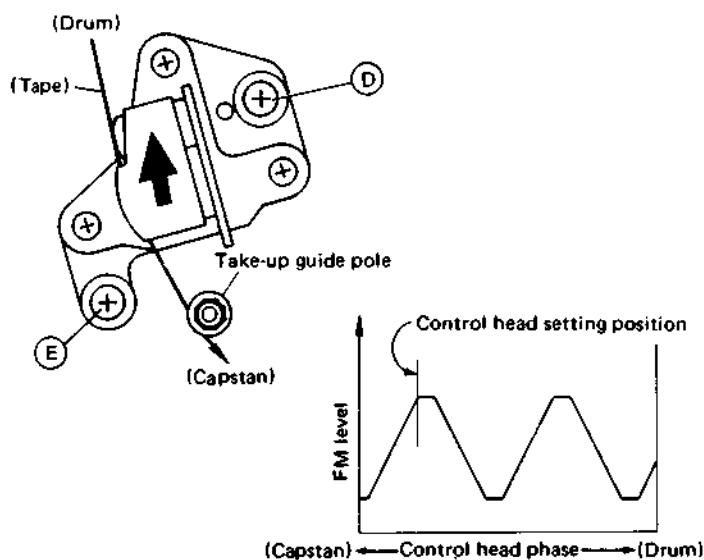

Fig. 4-44 Control head phase adjustment
9. Set the audio/control head position tool (PUJ47351-2) over the screw (D) and insert the pin of the tool into the hole at the side of the screw.
10. Slowly turn the tool and slide the A/C head assembly in the direction of the arrow as shown in Fig. 4-44.
11. Set the A/C head assembly to the position where first maximum FM level is obtained. Tighten two screws (D) and (E).